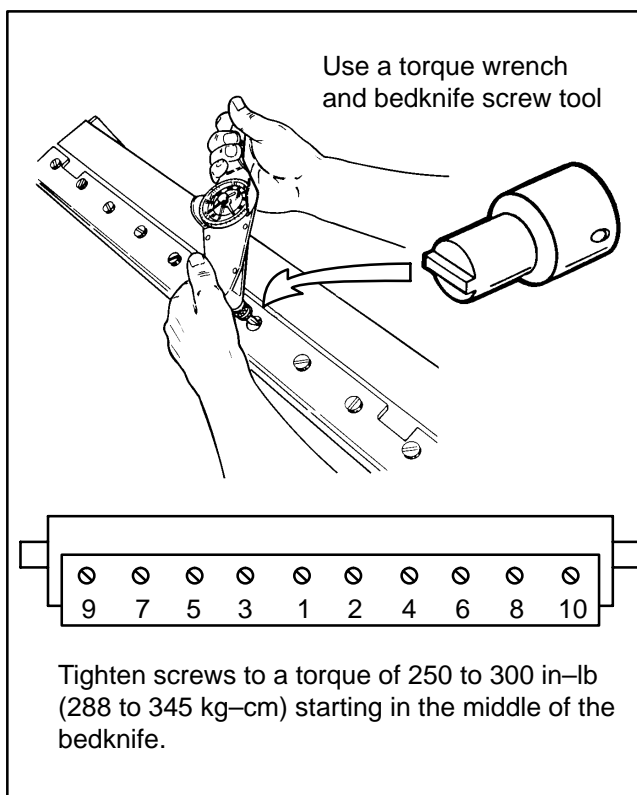
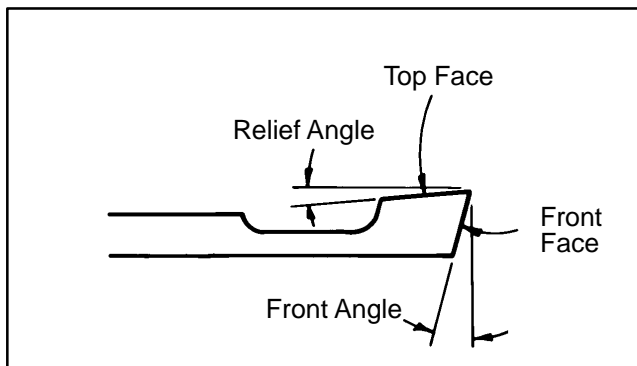

Figure 22
Figure 23
Bedknife Replacement and Grinding (Fig. 22 and Fig. 23)
- C. Tighten screws to a torque of 250 to 300 in-lb (288 to 345 kg-cm) working from the center toward each end of the bedbar (Fig. 22).